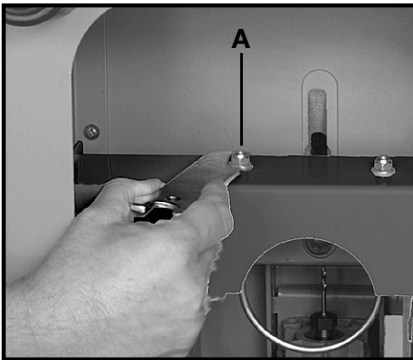

Fig. 12
1. Loosen motor clamp nut (A) Fig. 12: use the $\frac{7}{16}$ " wrench to rotate clamp nut counterclockwise several turns to loosen clamp.